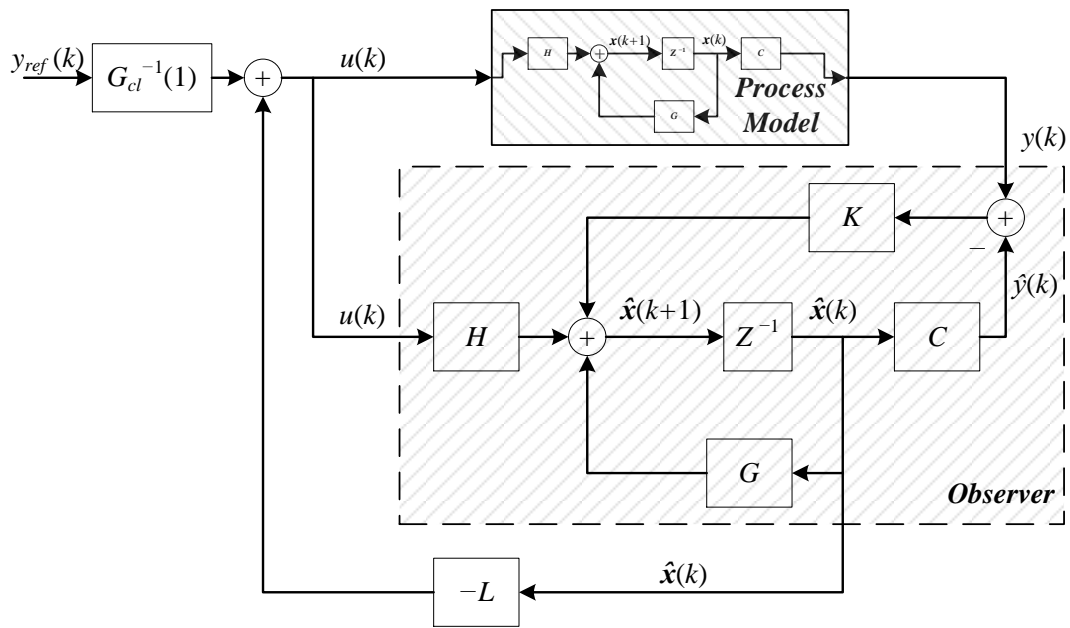

Fig. 4. Block diagram of the output feedback control system with observer.
- Simulate the complete output feedback control system for set-point control with deadbeat observer as shown in Fig. 4 using the same reference signal you have constructed in previous exercise and the same non-deadbeat controller (Q2.a and Q2.b). Use the same initial conditions as for regulation exercise (Q1.a) to verify your observer behaviour in the first period. Plot closed-loop output response with reference signal, input signal, and state estimation error (i.e., $x(k) - \hat{x}(k)$) similar to Fig. 5 (plot state estimation error for only the first 3 seconds). Fig. 5 shows the results of the output feedback control in this exercise for the example model obtained from `SysIdenData_StudentVersion.mat` data with closed-loop eigenvalues of $[0.9 \ 0.9]$, deadbeat observer, and initial output of $y(0) = 0.3$. Comment on transient and steady-state responses. How many time steps at most would take for state estimation error to reach zero in general? (0.5 marks)